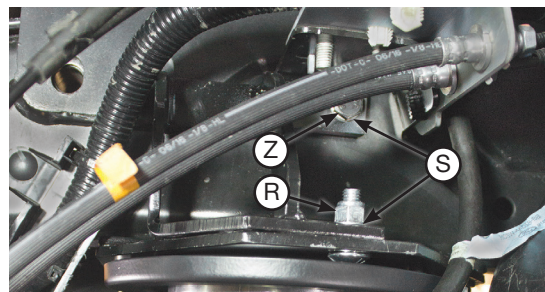

fig. D.26
2. Place the upper frame brace on top of the air spring bracket, against the side of the frame. Use an M10 bolt (Z) and 3/8" flat washer (S) to attach the bracket to the frame via the same hole from which the factory bolt was removed. The lower hole on the upper bracket attaches to the carriage bolt from Fig. D.7 with a flat washer (S) and nylon lock nut (R). After the bracket is in place, proceed to torque the upper M10 bolt and the 3/8" lock nut to 16 lb.-ft. (22Nm) (Fig. D.26).